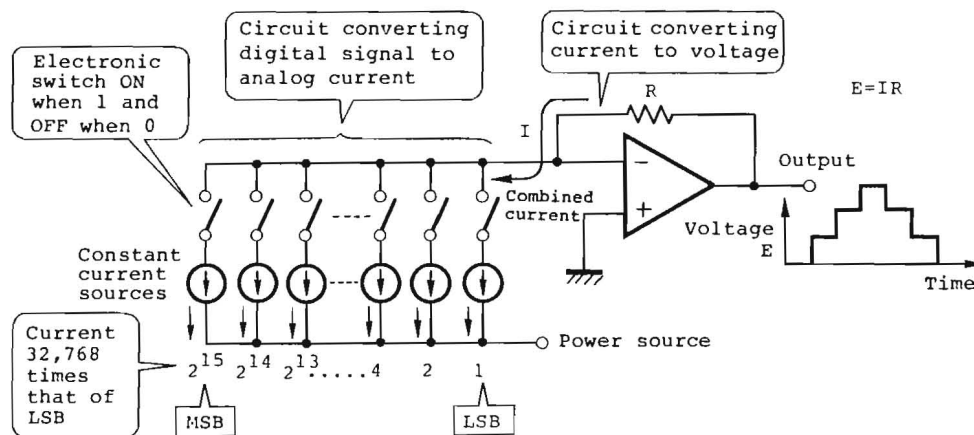

Fig. 1 Principle of 16-bit current-summing type DA converter
2) Operation of a multi-bit DA converter (Fig. 1)